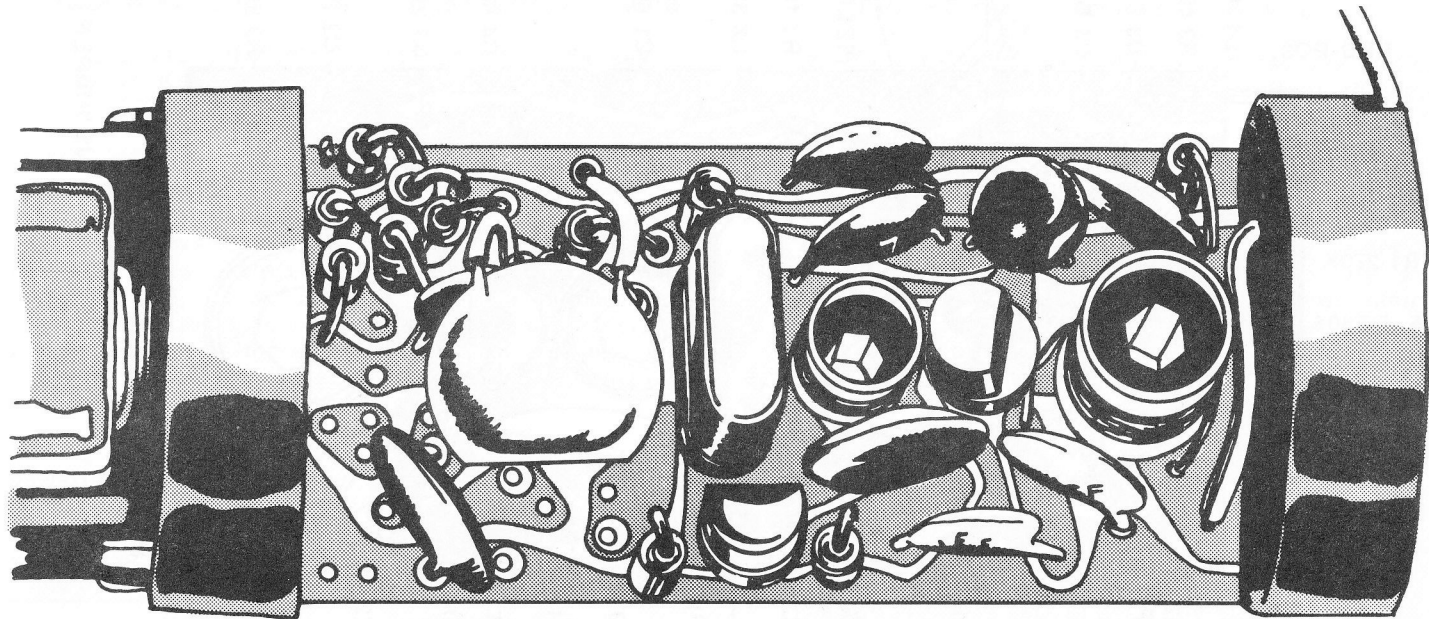

FIG. 2A TOP VIEW, "A" CONFIG. TRANSROC, SPIN-RATE MODE
- 12A. () Connect the leads of the photocell to the eyelet terminals from which R5 was just removed. Use the insulated sleeving on the photocell leads. Install the photocell as shown in Figure 2A
- 13A. () Inspect the completed assembly to verify that it looks like Figure 2A. If Q2, C9, R11 and R12 have previously been added for use of the microphone accessory, they do not need to be removed.